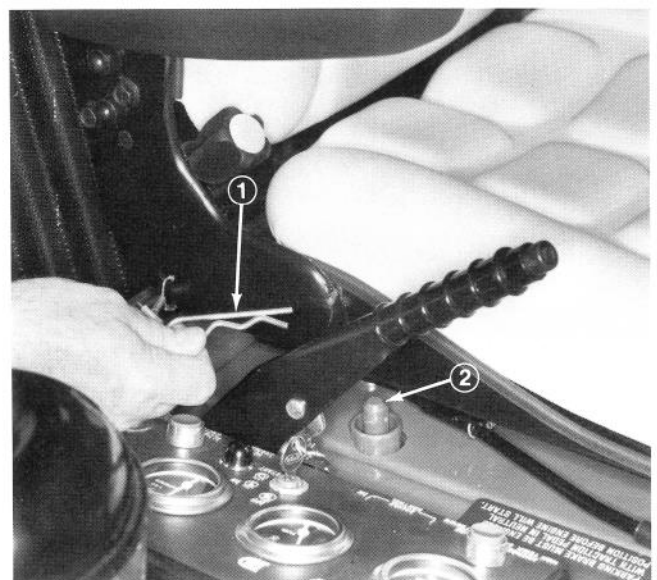
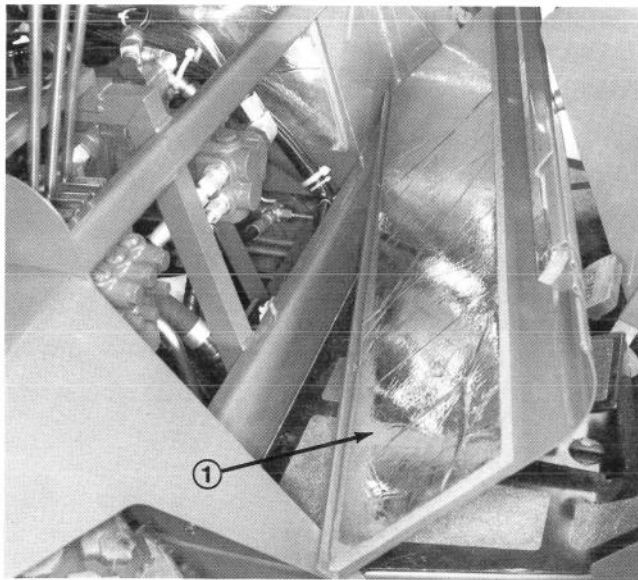

Figure 16
Figure 18
1. Remove retainer clip from seat lock rod (Fig. 16).
3. Lift and remove front panel (Fig. 18).
5. Install front panel over mounting pins (Fig. 18). Lower seat to its normal position and secure with lock pin (Fig. 16).